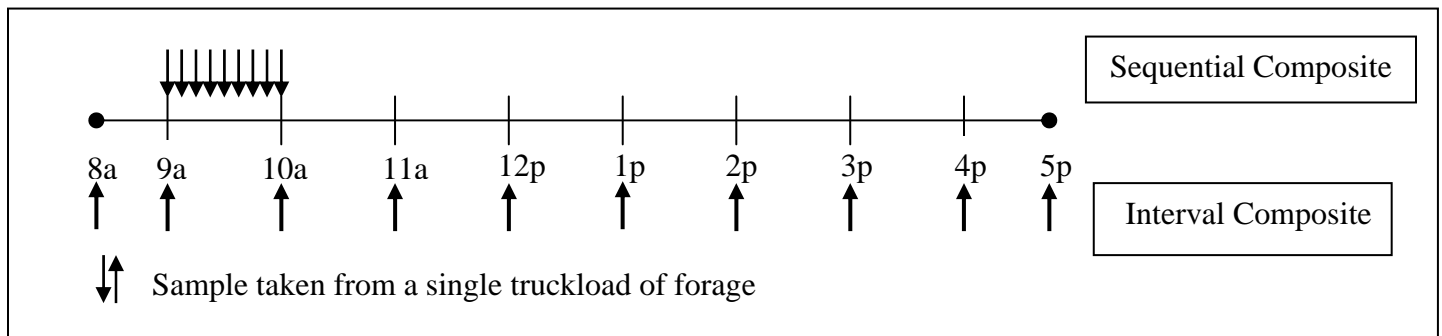

Figure 1. Example of truckload samples taken to create Sequential (top) and Interval (bottom) composites.
Our objective was to determine if differences exist in calculating dry matter (DM) removal based on various intensities of sub-sample and composite collection. We collected a representative sample and noted the forage weight from every truck unloaded from a single corn field on three dairies. Actual DM removed was calculated by summing truckload weight * DM for all collected samples. Field DM removal totals were calculated using two composite sampling methods (sequence and interval). Sequence values are the average of sample DM within an hour of harvest; for example, forages from trucks that unloaded between 9a and 10a (see **Figure 1**). Interval values are the average of every 10th sample collected, for example, forage that was unloaded at 9a, 10a, 11a, etc.
When *Mycoplasma spp.*, *Strep. ag.* or *Staph. aureus* are identified in BTM, it almost always indicate that there are infected quarters in the herd. *Staphylococcus aureus* is shed in low numbers and an attainable goal is less than 50 CFU/mL. BTM pathogen culture results from Jan-08 to Dec-08 are presented in **Figure 1**.
Figure 1. Percentage of herds with at least one positive culture a month for mycoplasma spp. (Left), *Strep agalactiae* (Center), bacterial counts equal or greater to 50 CFU of *Staph aureus* (Right).